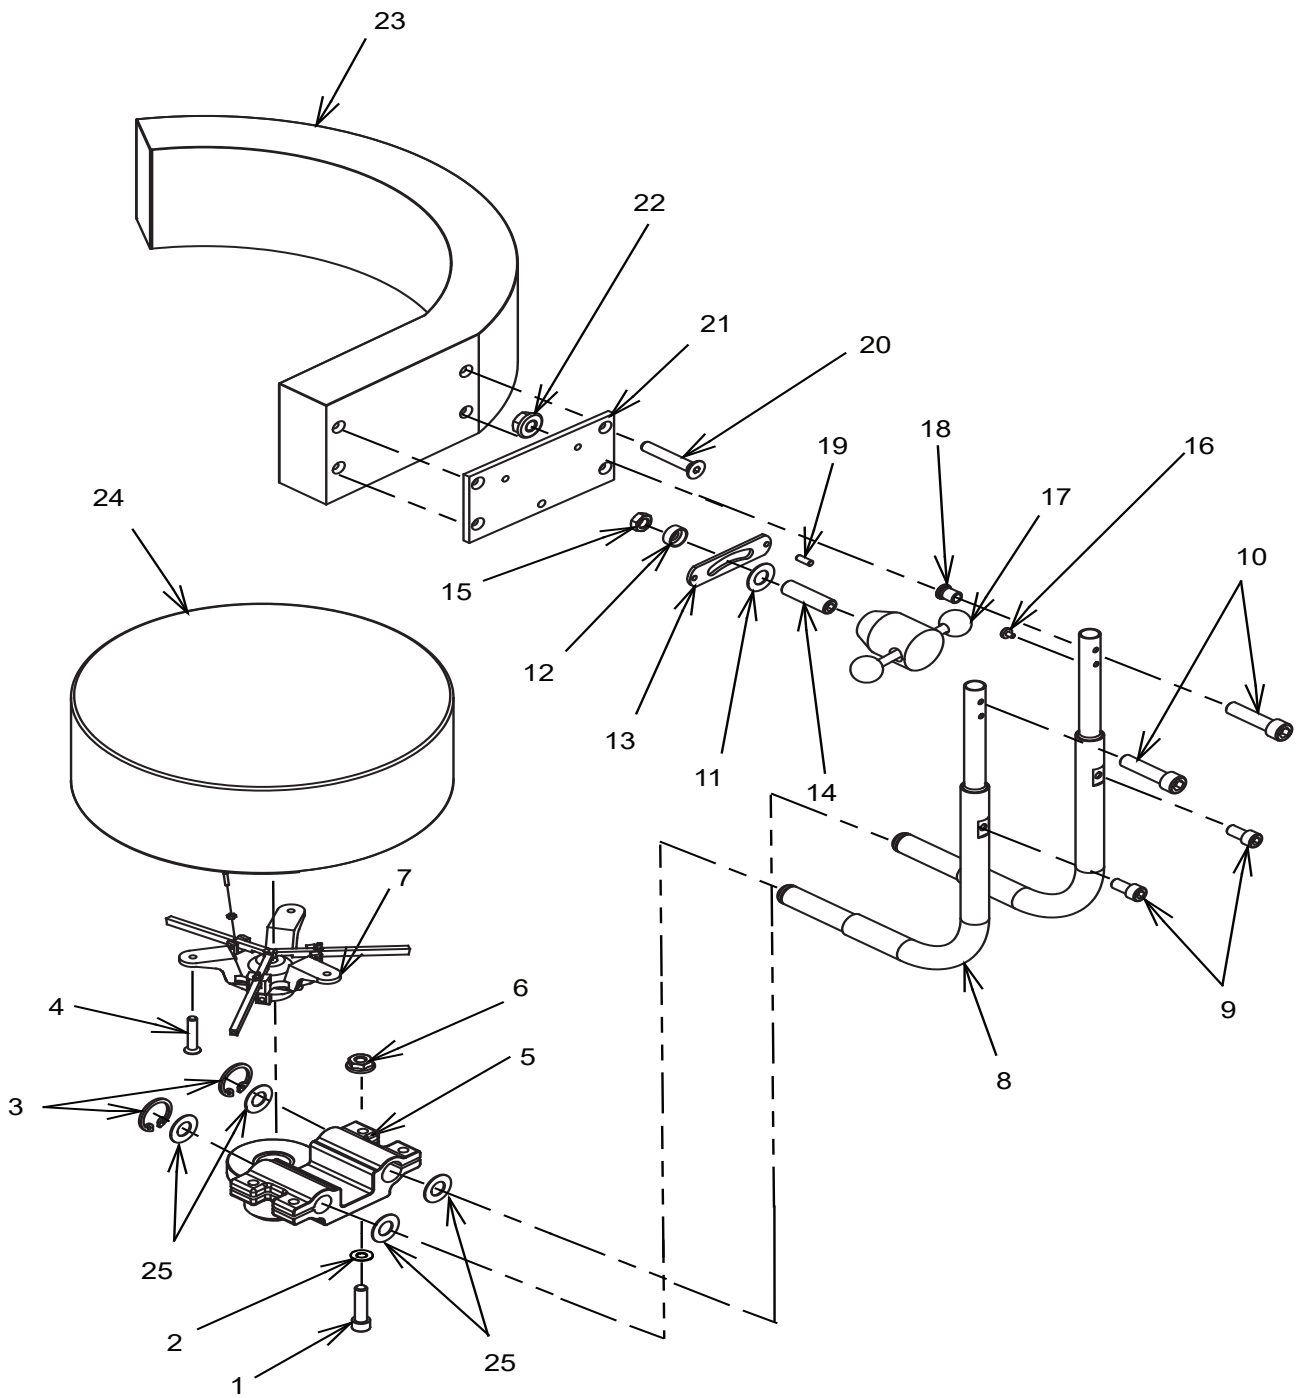

FIGURE 8
3.4.2. Lubricate the curved body support mechanism of the Model 5356, only if it operates stiffly or squeaks. Introduce a few drops of light oil into the slots of the back support casting holding the support tubes under the stool seat. (This casting is shown as Item 5 of Figure 8). Work the mechanism back and forth several times to distribute the oil and wipe off any excess.